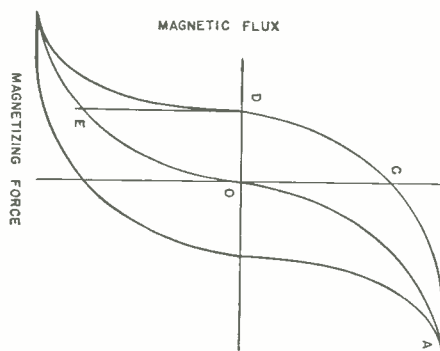

Fig. 4.
One of the prominent properties of any magnetic material is that the magnetic field of the iron lags behind those of the current (magnetizing force). If the current is slowly increased (Figure 4), then the magnetic flux in the iron also increases from 0 to A where saturation is reached. If the current is now gradually decreased, the iron loses some of its magnetic lines of force, but when the current reaches zero, the iron still has some lines of force (OC) left in it as residual magnetism. Therefore, additional current is necessary in the opposite direction to permit the magnetic force to attain zero value (DE). This additional force is considered the hysteresis characteristic of the material. Hysteresis losses are greater for dynamo grade than for regular transformer C grade, .913 to .633 watts per pound at 64,000 lines per square inch, respectively.